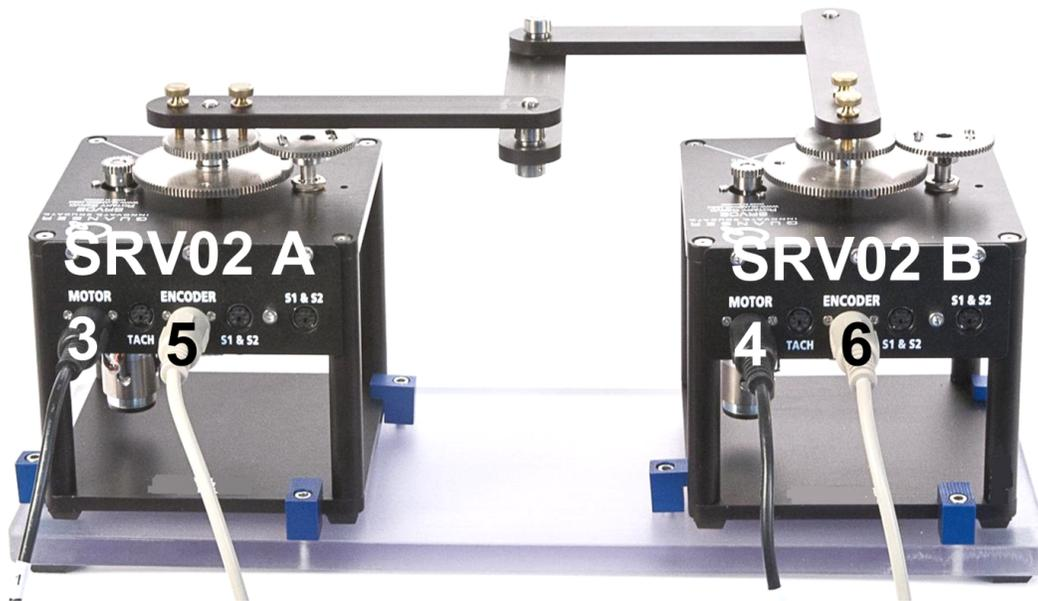
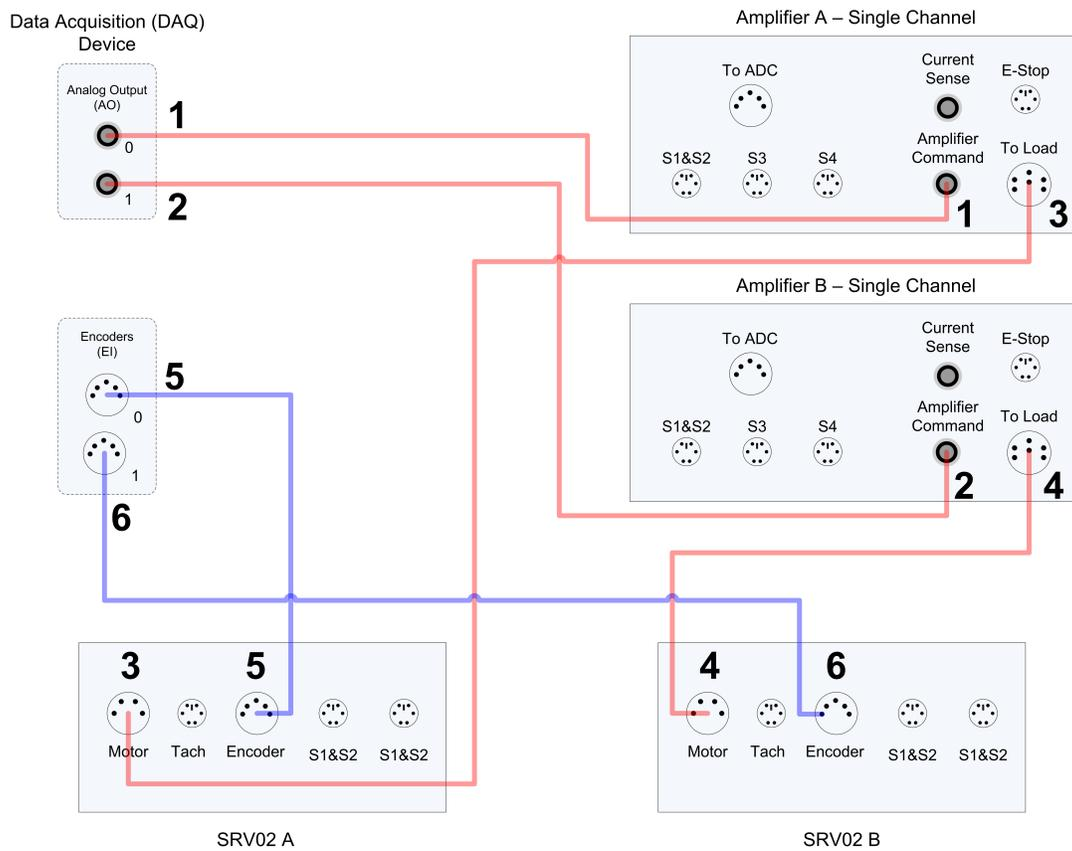

Figure 5.2: Connections on 2 DOF Robot plant.
Figure 5.3: 2 DOF Robot connection diagram using two single channel amplifiers
This section describes the typical connections used for to connect the SRV02 and 2 DOF Robot system to a data acquisition (DAQ) device and a two-channel amplifier. The connections are given in Table 5.2 and illustrated in Figure 5.3 and Figure 5.2. The detailed wiring procedure is given below.
3. Connect one end of the 2xRCA to 2xRCA cable from the Analog Output Channel #0 on the data acquisition (DAQ) device to the Amplifier Command 0 connector on the amplifier, that will be connected to SRV02 A (e.g. red RCA connectors). See cable #1 shown in Figure 5.3. This carries the attenuated SRV02 A motor voltage control signal,  $V_{m,a}/K_{a,a}$ , where  $K_{a,a}$  is the amplifier A gain.
4. Connect the one end of the 2xRCA to 2xRCA cable from the Analog Output Channel #1 on the data acquisition (DAQ) device to the Amplifier Command 1 connector on the amplifier, that will be connected to SRV02 B (e.g. white RCA connectors). See cable #2 shown in Figure 5.3. This carries the attenuated SRV02 B motor voltage control signal,  $V_{m,b}/K_{a,b}$ , where  $K_{a,b}$  is the amplifier B gain.
5. Connect the 4-pin-stereo-DIN to 6-pin-stereo-DIN from To Load 0 on the amplifier to the Motor connector on the SRV02. See connection #3 shown in Figure 5.3 and Figure 5.2. The cable transmits the amplified voltage that is applied to the SRV02 A motor and is denoted  $V_{m,a}$ .
6. Connect the 4-pin-stereo-DIN to 6-pin-stereo-DIN from To Load 1 on the amplifier to the Motor connector on the SRV02. See connection #4 shown in Figure 5.3 and Figure 5.2. The cable transmits the amplified voltage that is applied to the SRV02 B motor and is denoted  $V_{m,b}$ .
7. Connect the 5-pin-stereo-DIN to 5-pin-stereo-DIN cable from the Encoder connector on the SRV02 A panel to Encoder Input # 0 on the data acquisition (DAQ) device, as depicted by connection #5 in Figure 5.3 and Figure 5.2. This carries the SRV02 A load shaft angle measurement and is denoted by the variable  $\theta_{l,a}$ .
8. Connect the 5-pin-stereo-DIN to 5-pin-stereo-DIN cable from the Encoder connector on the SRV02 B panel to Encoder Input # 1 on the data acquisition (DAQ) device, as depicted by connection #6 in Figure 5.3 and Figure 5.2. This carries the SRV02 B load shaft angle measurement and is denoted by the variable  $\theta_{l,b}$ .